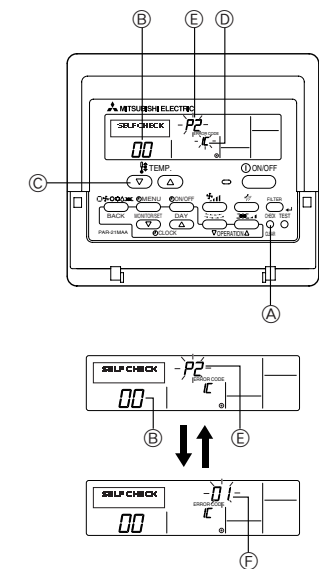

Fig. 7-3
7.3.1. Wired remote controller (Fig. 7-3)
- (A) CHECK button